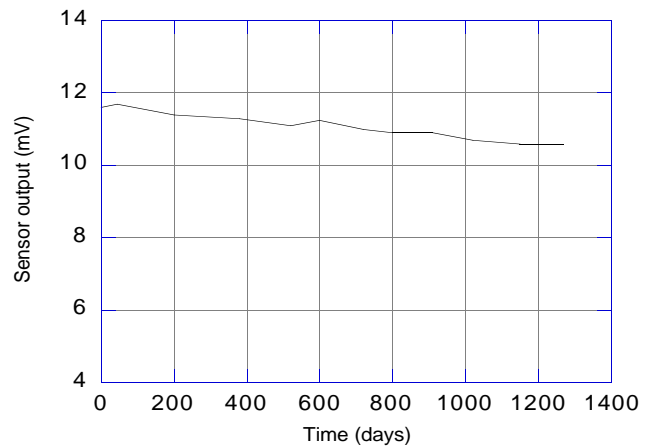

Fig. 4 - Long term stability of KE-25 output voltage at room temperature (typical values)
- Fig. 4: Long term stability of output voltage at room temperature